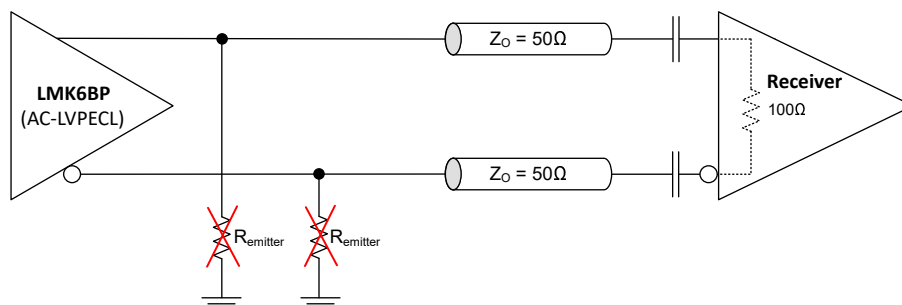

Figure 9-12. Replacing a LVPECL oscillator with the LMK6Bx
3. Depopulate any emitter resistors as shown in Figure 9-12.